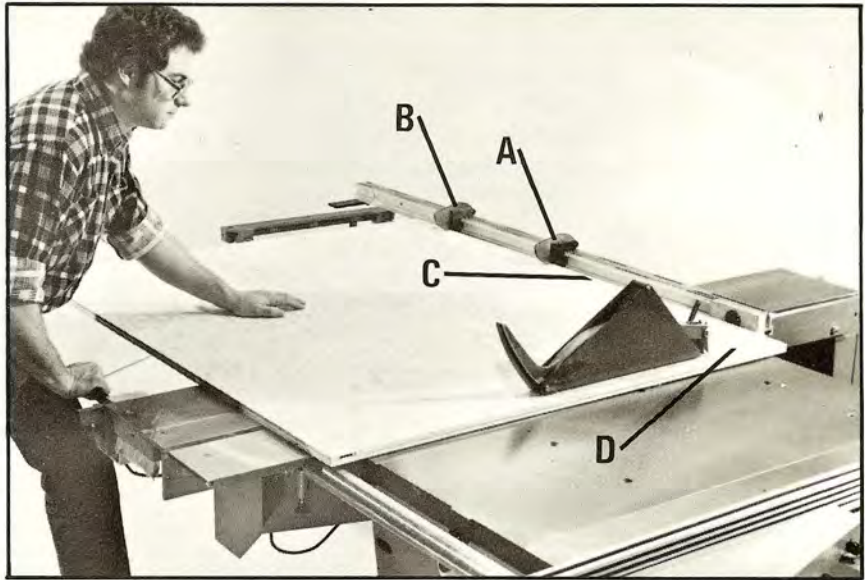

Fig. 50
1. Set stop (A) Fig. 50, to the desired width of the finished panel. Set stop (B) to the desired length of finished panel.
2. With edge (C) Fig. 50, against fence, make the cut on edge (D), as shown, to square edge (D) to edge (C). Note that the fingers on stops (A) and (B) are both depressed, and that the cut being made is longer than the finished length desired.